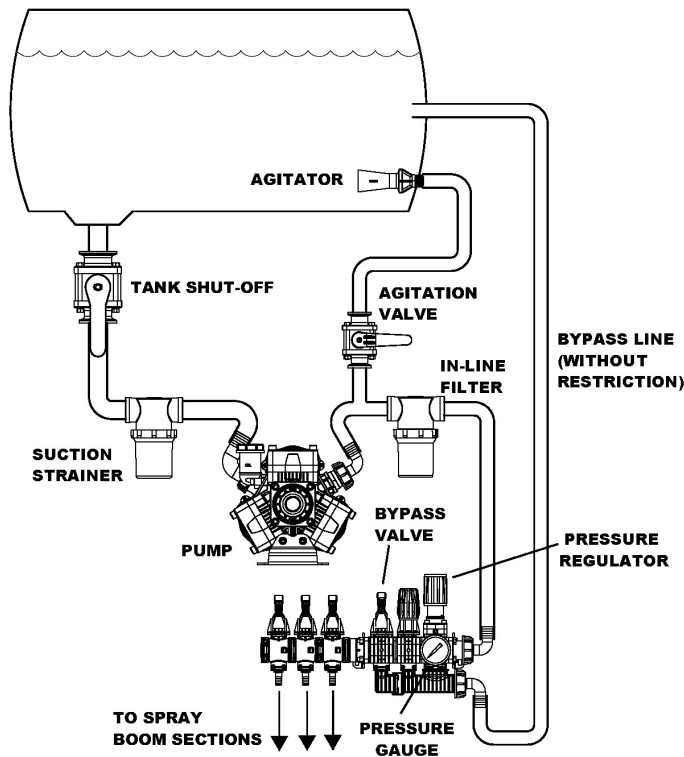

FIGURE 1
1. Always mount pump with oil sight tube in upright position (See Figure 1).